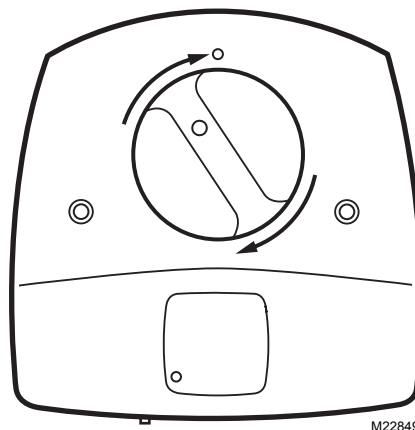

Fig. 6. Snap lamp handle into place.
13. Rotate the lamp handle clockwise until it snaps into place with the lamp light indicator aligned with the raised button on the unit cover. See Fig. 6.